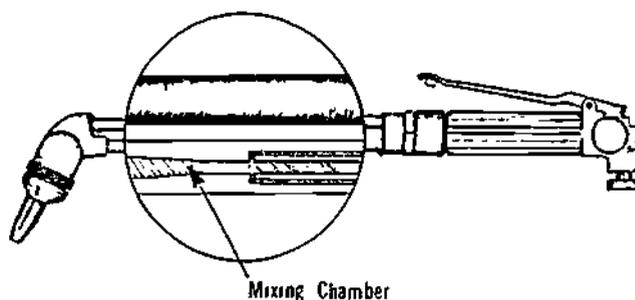

Figure 18-15. View of Mixing Chamber
c) In a flashback, the flames burn back into the mixing chamber or beyond (Figure 18-15).